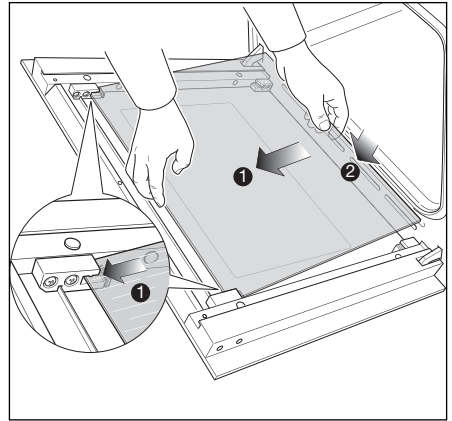
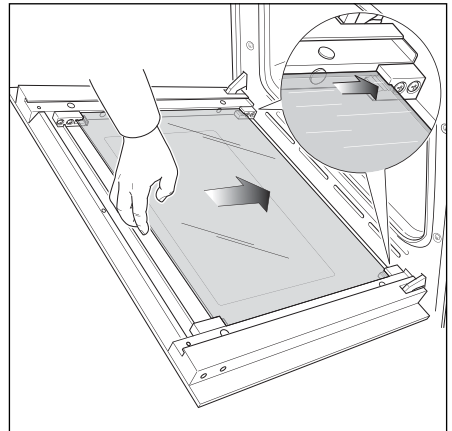

Fig.23b
Fig.23c
- Gently insert the top edge of the pane into the top clamps (arrow 1 in Fig. 23b), then lower the pane and insert the bottom edge into the bottom clamps (arrow 2 in Fig. 23b); and then slide the pane into position (Fig. 23c).